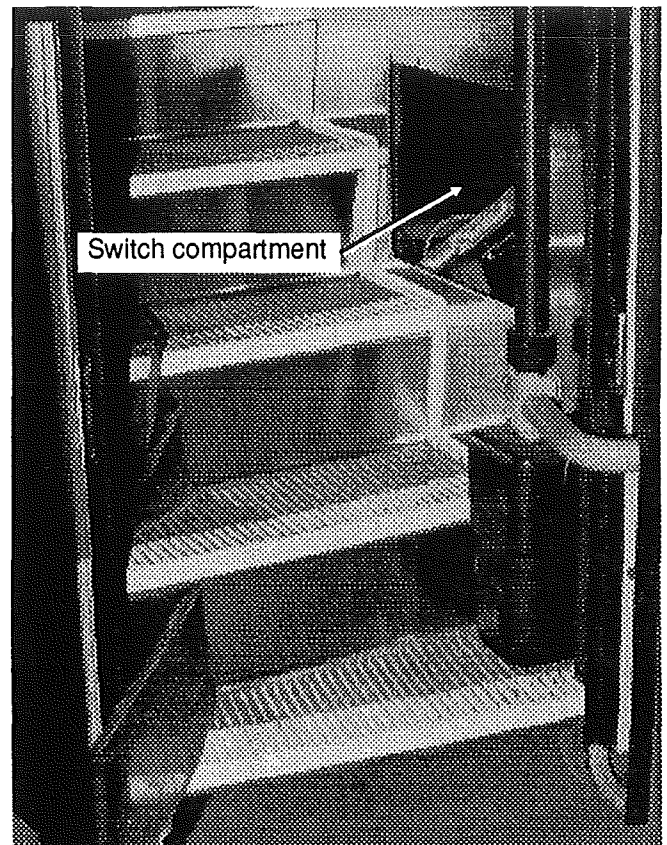
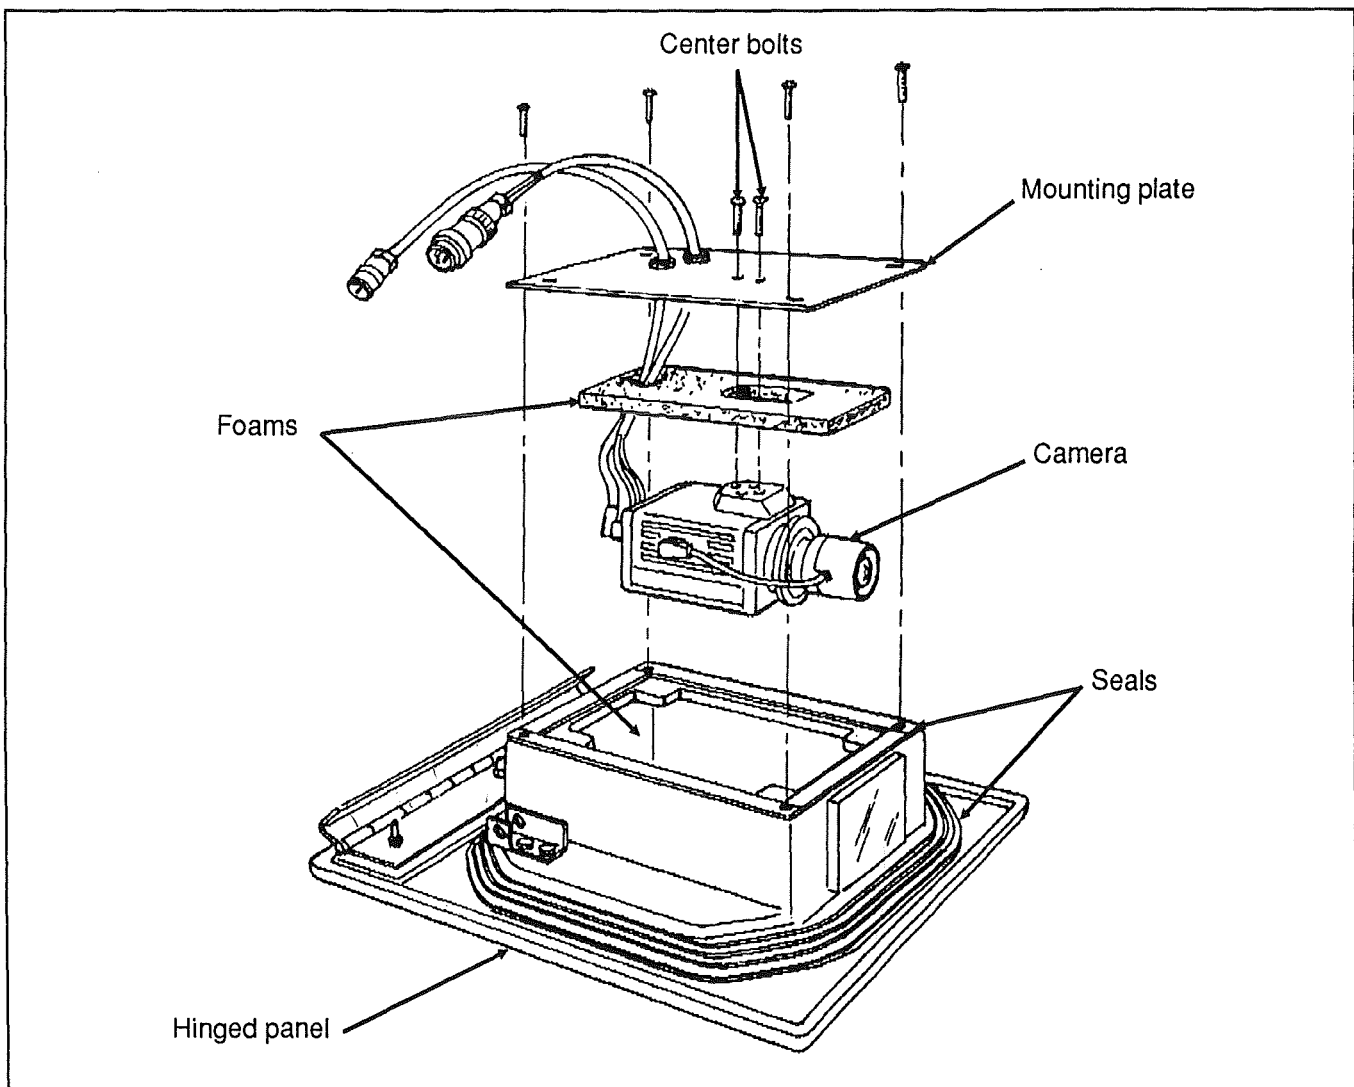

FIG. 6
FIG. 7 - Back-up camera disassembly
The camera is retractable and is visible from the outside only when it is functioning. A switch located in a small compartment on the R.H. side of rear section stepwell (see fig. 6), enables the extension of the camera for maintenance or cleaning purpose. The camera enclosure is insulated with a thick foam, and a heating strip (52 watts) is wound around the camera and is controlled by a thermal switch. The camera is fed from the 12 volt circuit; for specific wiring information, refer to diagram # 22/24 of the master wiring diagrams.
2. Remove the three (3) screws retaining the switch compartment panel which is located on the R.H. side of rear section stepwell (see fig. 6). Remove panel, then set switch to the "ON" position to extend the back-up camera.
5. Using a seven (7) mm wrench, remove the four (4) bolts securing the camera hinged panel to the rear cap, while retaining panel to prevent it from falling off vehicle. Carefully lower the camera hinged panel to disconnect the coaxial cable and wire connectors from rear cap.
7. Remove the four (4) bolts retaining the camera mounting plate to its enclosure (see fig. 7).
8. Remove the two (2) center bolts to separate camera from its mounting plate.